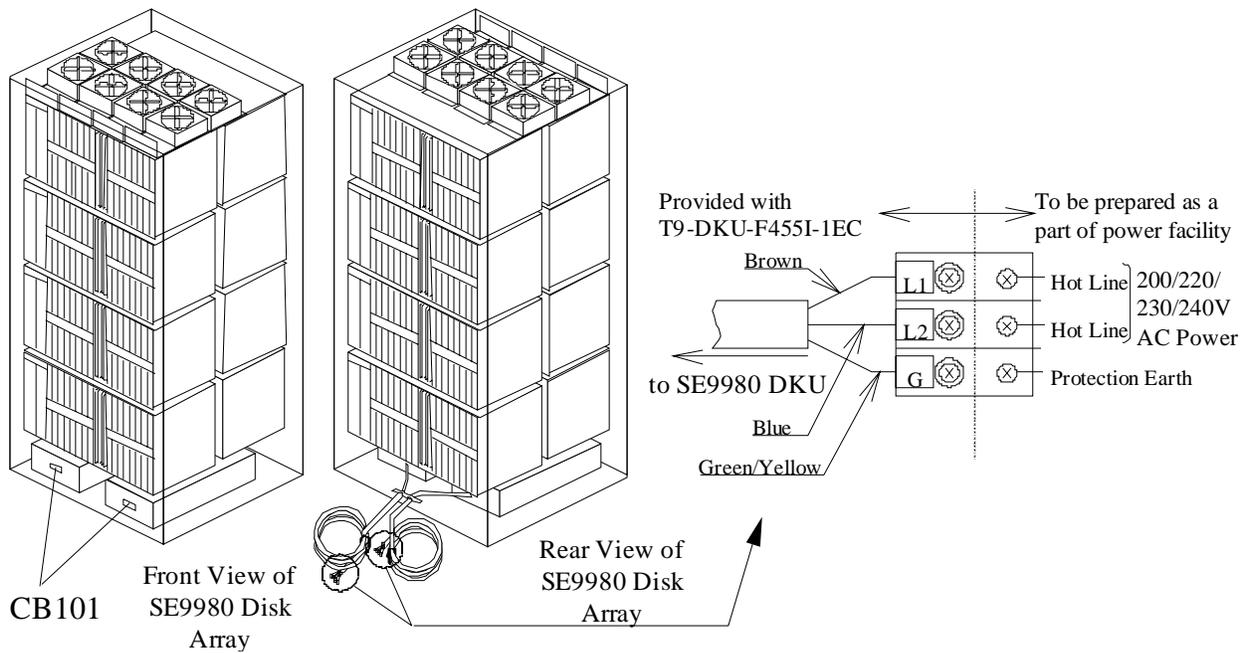

Figure 33 Power Plugs for a Single-Phase Sun StorEdge 9980 Disk Array Unit (Europe)
- Figure 33 illustrates the power plugs for a three-phase Sun StorEdge 9980 disk array unit (Europe).